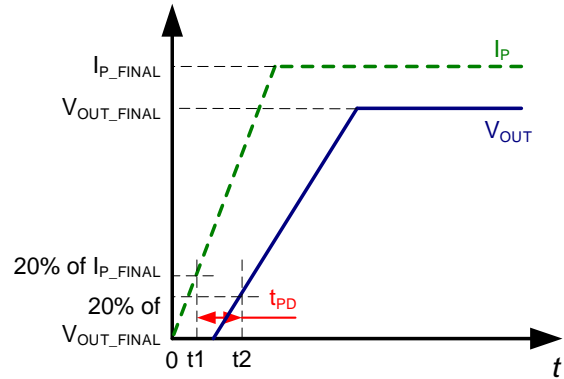

Figure 6: Propagation Delay (t_{PD})
2. $t2$: V_{OUT} reaches 20% of its final value, as it corresponds to the applied primary current (see Figure 6).